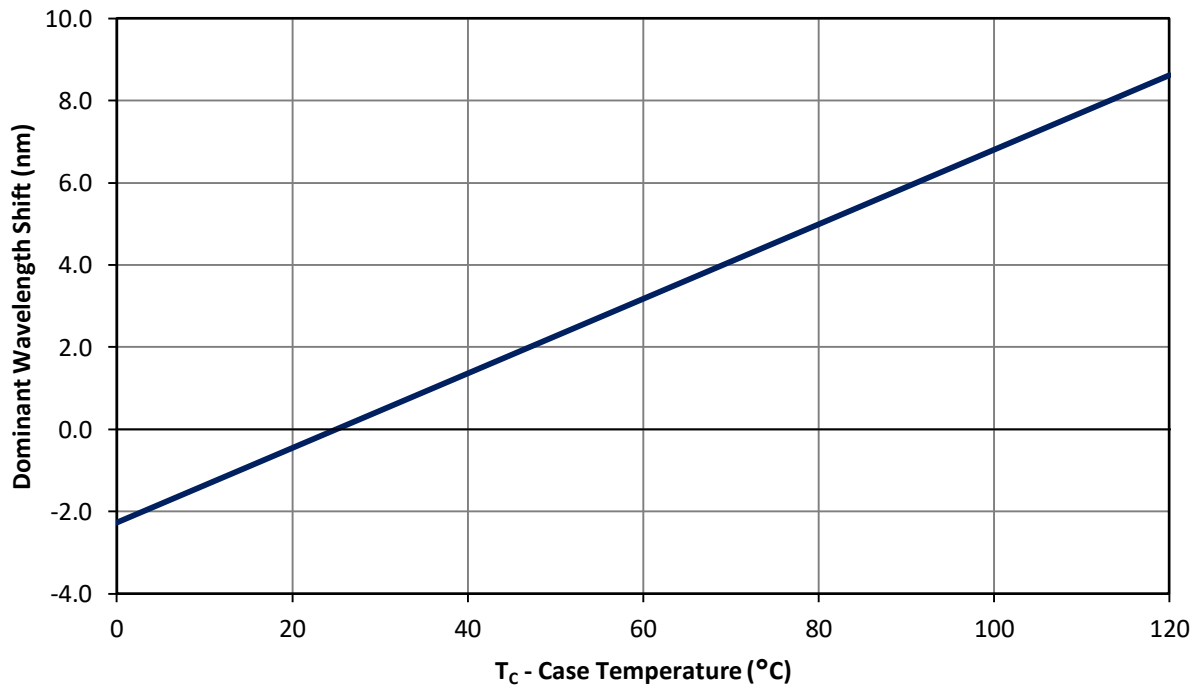

Figure 10: Typical relative dominant wavelength shift vs. case temperature.
2. Amber LEDs have a significant shift in wavelength over temperature; please refer to Figure 10 for details. Caution must be exercised if designing to meet a regulated color space due to this behavior as product may shift out of legal color space under elevated temperatures.